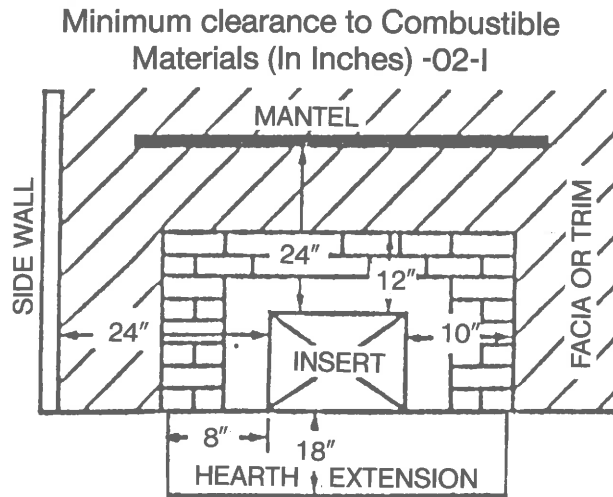

Figure 1
2. See Figure 1 for clearances to combustibles in a masonry fireplace.